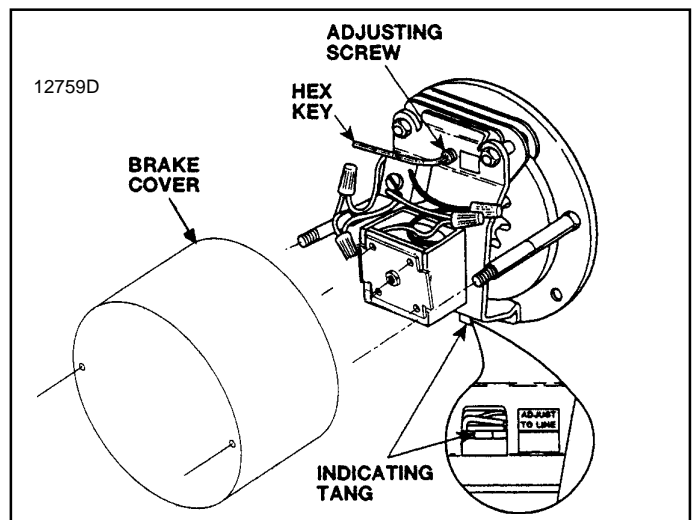

Figure 7-32. Hoist Motor Brake
(1) Examine position of indication tang located below the solenoid coil (see figure 7-32).
(2) If the tang is below the line by more than 1/8", the brake should be adjusted to bring the top of the tang back up alongside the line on the adjust label.
(3) Removing the hex key (1/8" size) from the holster on the cover mounting stud and carefully turn the ADJUSTING SCREW (located above the solenoid coil) clockwise. The indicating tang will move a large distance for a small turn of the adjusting screw, therefore turn the screw no more than one-quarter turn before checking adjustment.
(4) After adjustment operate the brake by hand to assure brake disc running clearance. The outboard brake pad should separate from the brake disc by approximately .010".
(5) Air gap adjustment.
(1) Brake Adjustment. Adjust brake if clearance between pressure pad and brake disc is more than .040" (see fig. 7-32) or if brake is drifting.
(2) Tools Required.
(a) Minimum clearance between pressure pad and brake disc is .020" to .025" (see fig. 7-32). Set feeler gage between .020" and .025" and place between pressure pad and brake disc. Use 1/8" hex key on adjusting screw (located above solenoid coil). Stop turning adjusting screw when contact is made with the pressure pad. Remove feeler gage.